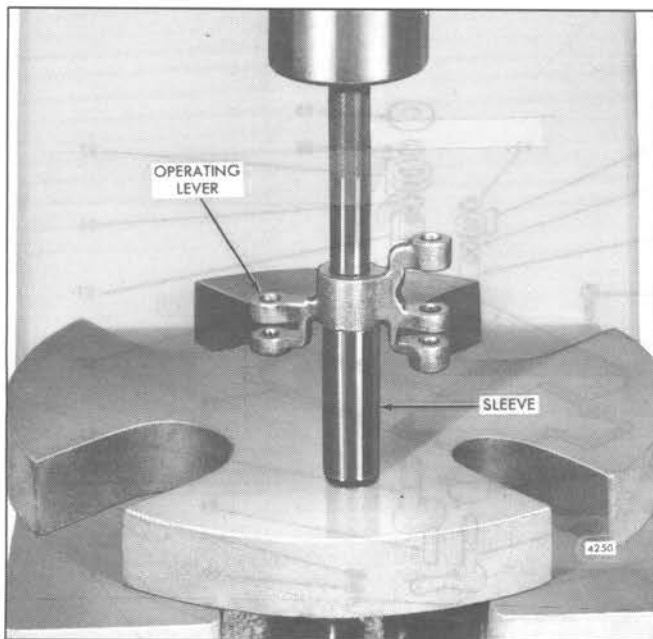

Fig. 18 – Removing Operating Lever Needle Bearings using Tool J 8985
- m. If removal of the needle bearing is necessary, support the control link operating lever on a sleeve and rest the sleeve on the bed of an arbor press. Place tool J 8985 on top of the bearing and press both bearings out of the lever (Fig. 18).